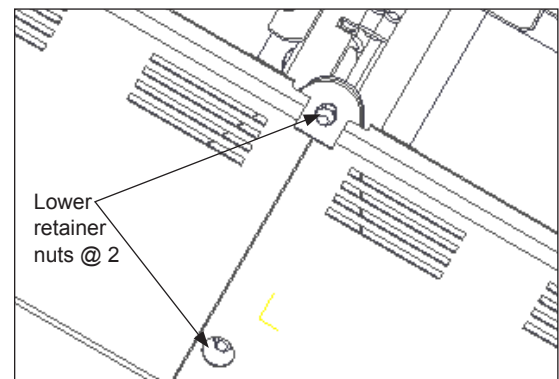

**Figure 21: Opening Wing Beverage Shroud**
1. Open or remove the wing beverage shroud. Refer to **Figure 21**.